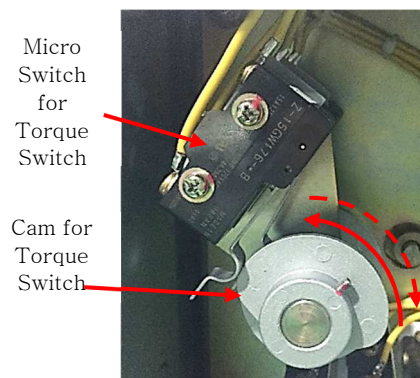

Fig.3 : Torque switch position
- When overloading, output shaft is engaged with ⑥worm wheel.
- The excessive thrust force shall be applied in the spring power for ②torque switch and ⑤worm which is constrained ate the balance position.
- Torque switch is assembled by micro-switches two sets for each direction of micro-switches(0 % or 100%) as in Fig 3.
d. Moving Direction of manual operation shaft (Fig.3)